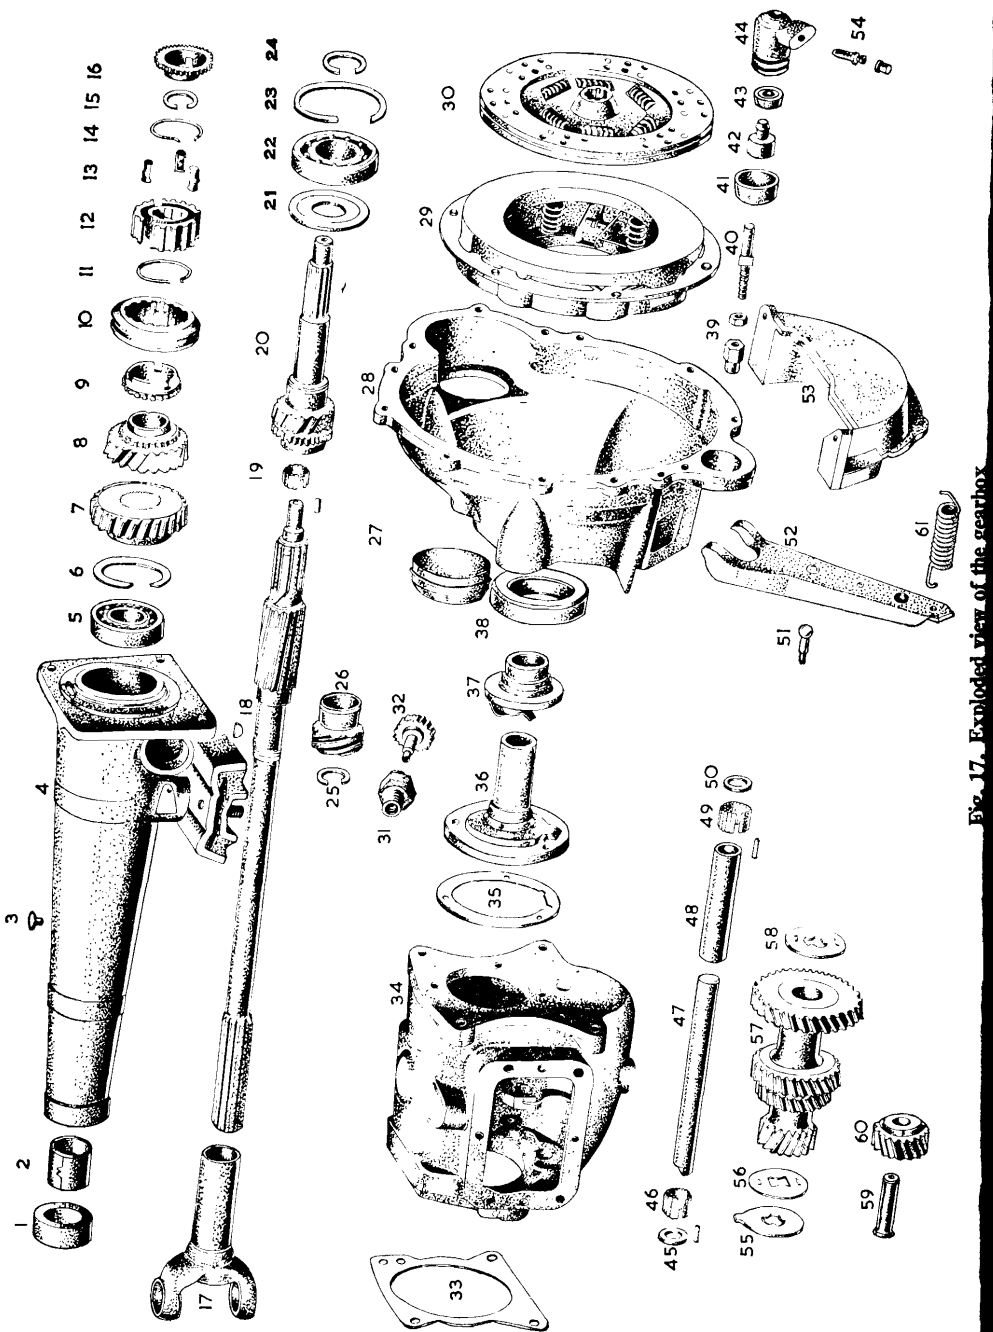

Fig. 17. Exploded view of the gearbox
In Fig. 17 an exploded view of the gearbox is shown.
- (17) Install the first/reverse gear, with the collar to the rear, on the mainshaft. Install the second-gear idler pinion with the tapered side towards the front on the mainshaft and install the second-gear synchronizer ring.
- (18) Fit the two synchronizer springs at front and rear in the synchronizer hub, making sure that the tag end of both springs is in the same recess of the hub. The springs should be lying in opposite directions (see Fig. 17). Now install the synchronizer hub, with the long boss towards the front, on the mainshaft and fit a new circlip. Fit the three synchronizer keys in the hub and fit the second/top-gear shifter sleeve, making sure that the marks on the hub and shifter sleeve coincide. Stick the top-gear synchronizer ring in the front of the hub with some grease.
- (19) Check the end-clearance of the second-gear idler pinion, which should be 0·003-0·012in.
- (20) Slide the second/top-gear shifter sleeve towards the front in top-gear position and check to see whether the bearing rollers in the main drive gear are still in position.
- (21) Stick a new gasket to the rear of the gearbox housing and install the mainshaft and extension housing assembly in the gearbox, lifting the front of the mainshaft assembly a little in order to guide it along the countershaft gear cluster. Insert the front of the mainshaft into the main drive gear roller bearing and push the extension housing right home.
Key to Fig. 17